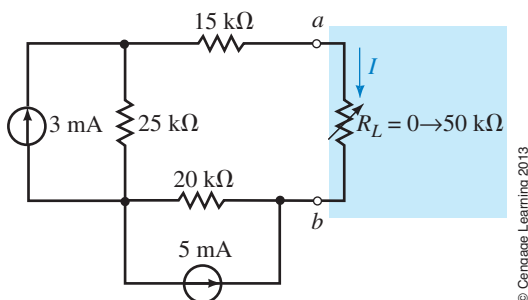

FIGURE 9-91
17. Refer to the circuit of Figure 9-91: